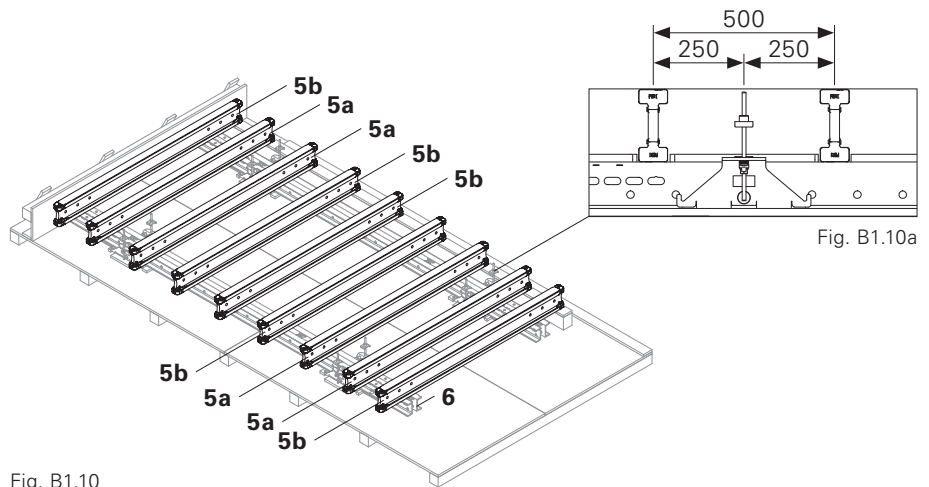
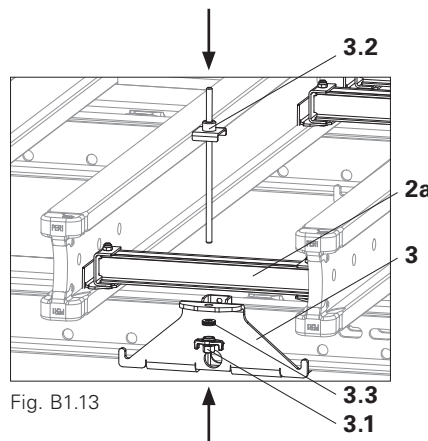

Fig. B1.10
Fig. B1.13
1. Position Girders VT 20K (5a/5b) symmetrically and orthogonally on both Steel Walers SRU U120 (6), and align with the spacing battens. (Fig. B1.10)
2. Loosen and remove mini nut (3.1) and the plate spring (3.3) from the Table Head Middle Part VD (3).
4. Position the first Table Head Upper Part VD (2a) between two Girders VT 20K (5a) and above the first hole of the Table Head Middle Part VD (3).
5. Insert threaded rod with clamping shoe (3.2) into the hole of the Table Head Middle Part VD (3).
6. Attach plate spring (3.3) and mini nut (3.1) and tighten securely with 50 Nm. (Fig. B1.13)